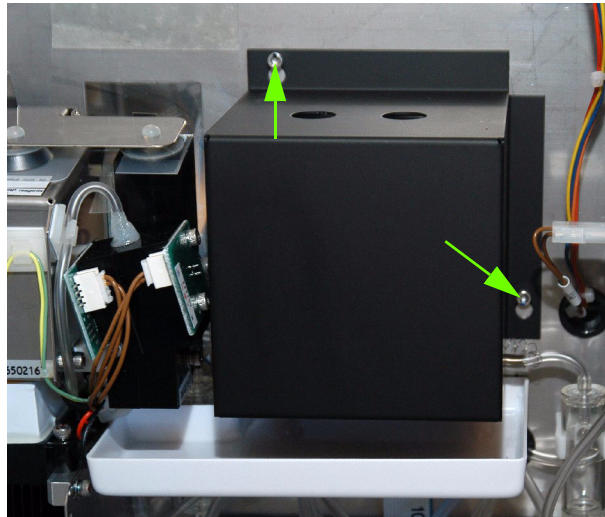

Fig.6: Chamber cover
- ◆ Remove the chamber cover (See "Fig.6: Chamber cover, page 5").